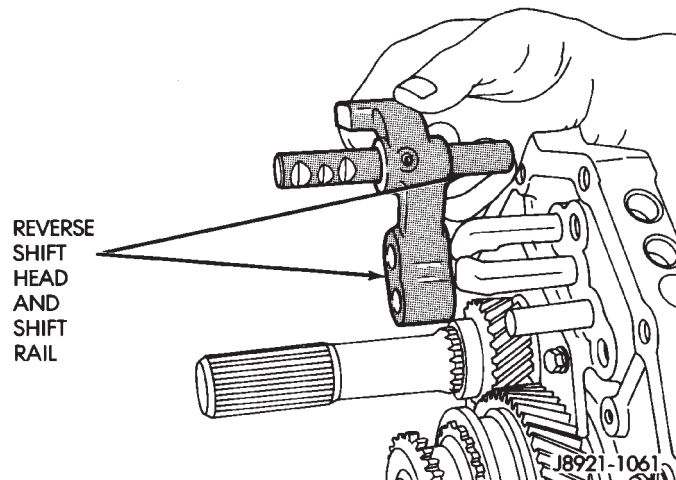

Fig. 55 Remove Reverse Shift Head Assembly
(7) Remove the reverse shift head and rail assembly from the intermediate plate (Fig. 55).